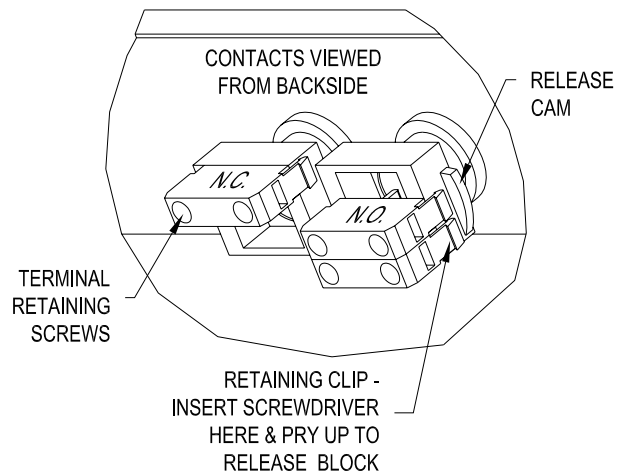

Figure 16. Pushbutton Switch Contact Blocks
2. Release the contact block mount from the pushbutton operator by depressing the release cam (see Figure 16).
4. Remove contact block from mount by inserting a flat screwdriver into the retaining clip on one side of the contact block and prying up (see Figure 16).